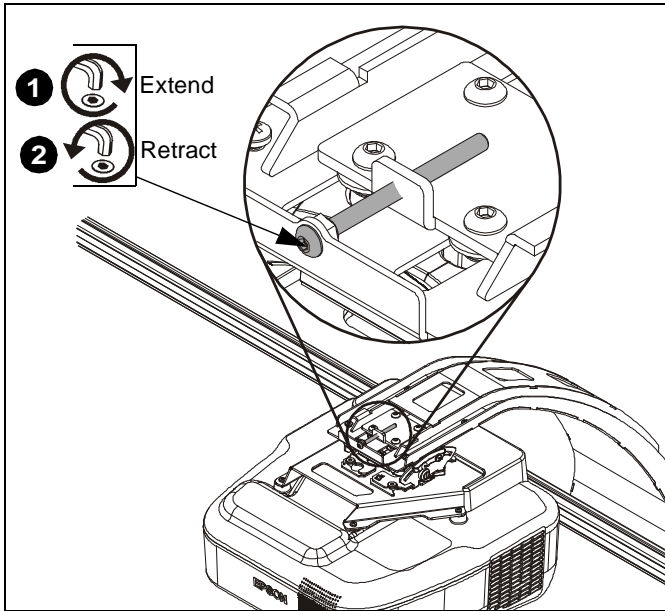

Figure 16
1. If required, turn the micro adjust fastener **clockwise** to extend projector further from wall. (See Figure 16)